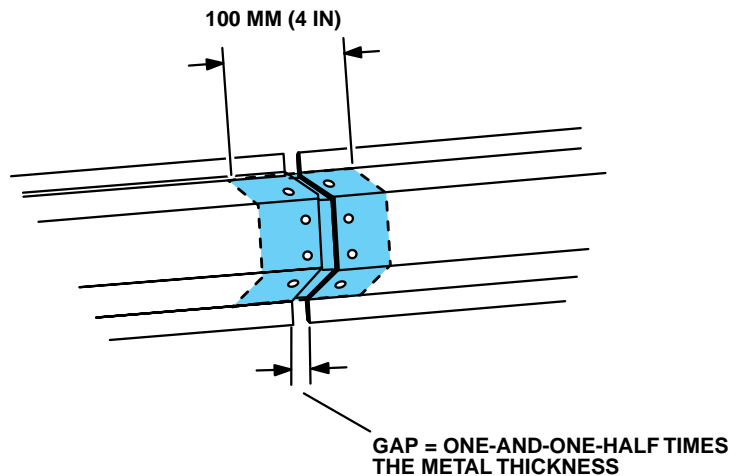

Fig. 1-3 — Rocker Panel Backing Plate
2. Create 100 mm (4 in) backing plate on rocker panel from unused portion of service part (Fig. 1-3).
2. Mark vertical cut lines in rocker areas to correspond with original section lines. Leave a gap of one-and-one-half times the metal thickness (see Fig. 1-3).